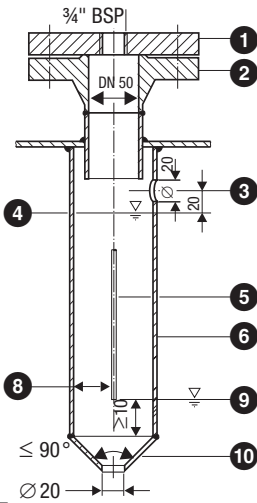
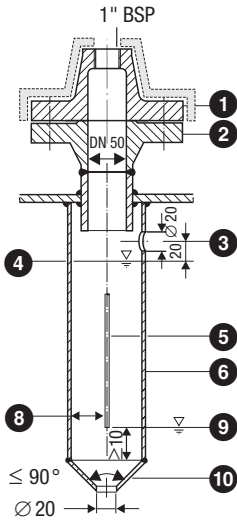

Fig. 15
Fig. 19
- Observe min. spacing when installing the electrode, **Fig. 10, Fig. 15, Fig. 19**.